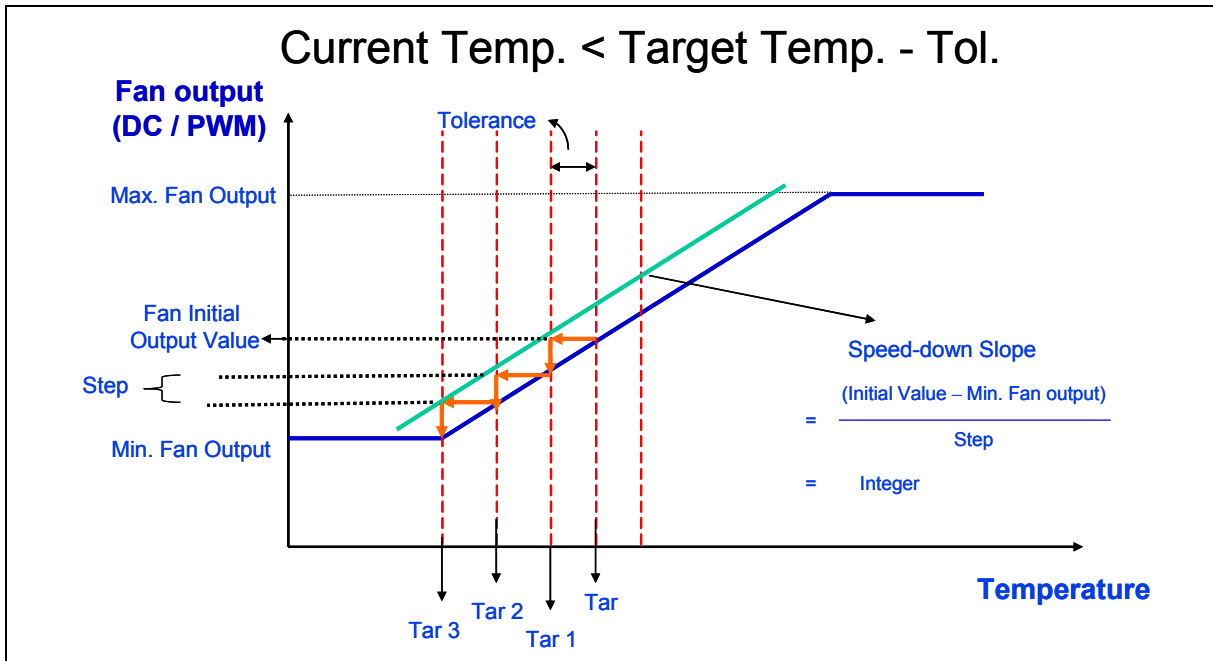

Figure 6.11
- (7) In the case that currently measured temperature goes below (Target Temperature – Temperature Tolerance), which is shown in Figure 6.11, fan speed slows down by one step. “Step” here refers to the value in the CPUFANOUT Output Value Select Register, Bank0 Index03h or Index61h.
- (8) Meanwhile, original Target Temperature dynamically shifts to (Target Temperature – Temperature Tolerance), and new Target Temperature, named Target Temperature 1, is formed. In other words, Target Temperature 1 equals original Target Temperature minus Temperature Tolerance.
- (9) If the currently measured temperature is within the (Target Temperature 1 ± Temperature Tolerance) then, the fan speed remains constant. Otherwise, fan speed slows down by one step again. Target Temperature then dynamically shifts to (Target Temperature 1 – Temperature Tolerance), and new Target Temperature again, named Target Temperature 2, is formed.
- (10) The fan-slow-down and Target Temperature comparison-then-shift process continue until currently measured temperature locates within (Target Temperature X ± Temperature Tolerance), or fan output speed hits its minimum speed.
- (11) Please be noted that “Speed-down Slope” shown in the Figure 6.11 must be an integer. In other words,  $\frac{InitialOutput - Min.FanOutput}{Step}$  must be an integer; otherwise, it may lead to register overflow.
- (12) In the case that the temperature is always lower than (Target Temperature X – Temperature Tolerance), and, for some reason, the fan speed would like to be kept at the minimum speed, Stop Value, instead of being stopped, set register Bank0 12h.bit 4. Set bit 4 to 1, fan speed will always keep at the value set in Bank0 Index09h when temperature is always below (Target Temperature X – Temperature Tolerance). Set bit 4 to 0, fan speed will decrease to 0 after a time period set in Bank0 Index0Dh.